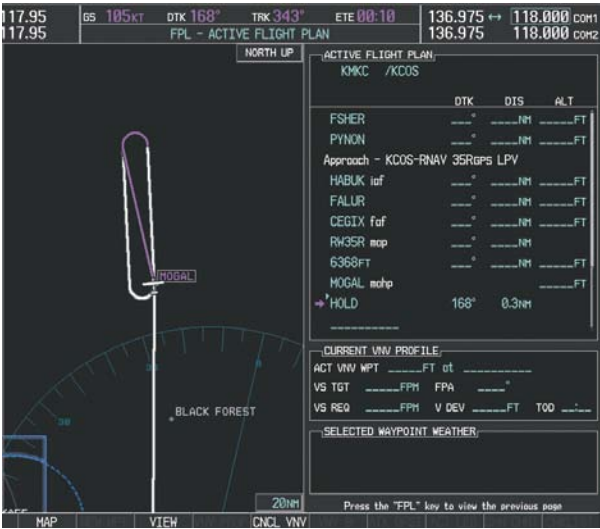

Figure 7-50 Establishing the Holding Pattern
- 26) The aircraft continues climbing to “AT or ABOVE” 10,000 feet at MOGAL. A holding pattern is established at the MAHP (MOGAL) as shown in Figure 7-50.